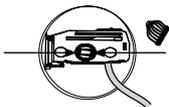

Figure 3B
**NOTE:** Bolt ships with backset in 60mm position. If required, press small black button on underside of bolt and pull to extend to 70mm backset position (Fig. 3B).
**NOTE:** Cable goes **under** bolt (see Fig. 3B).